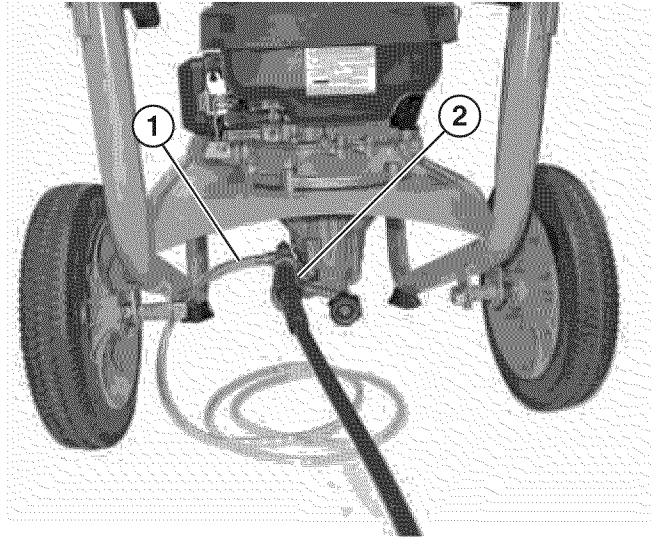

Figure 16 – Installing High-Pressure Hose WP2500 Shown
14. Connect the high-pressure hose to the pump and tighten the hose fitting (see Figure 16). Do not overtighten. The fitting only needs to be hand-tight.
15. Connect the soap hose to the barbed fitting if you are going to be using soap (see Figure 16).